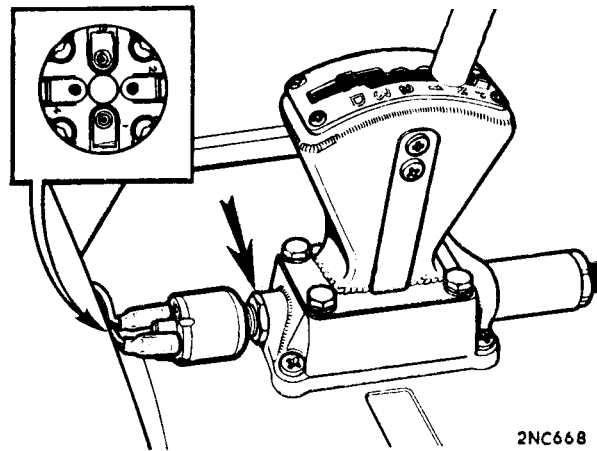

Fig. Fa.4
The switch is located on the rear of the gear selector housing (Fig. Fa.4) and must be adjusted to ensure that the engine can only be started when the selector lever is in the 'N' position on the quadrant.
3. Slacken the locknut (arrowed, see Fig. Fa.4), and unscrew the switch almost out of the housing.